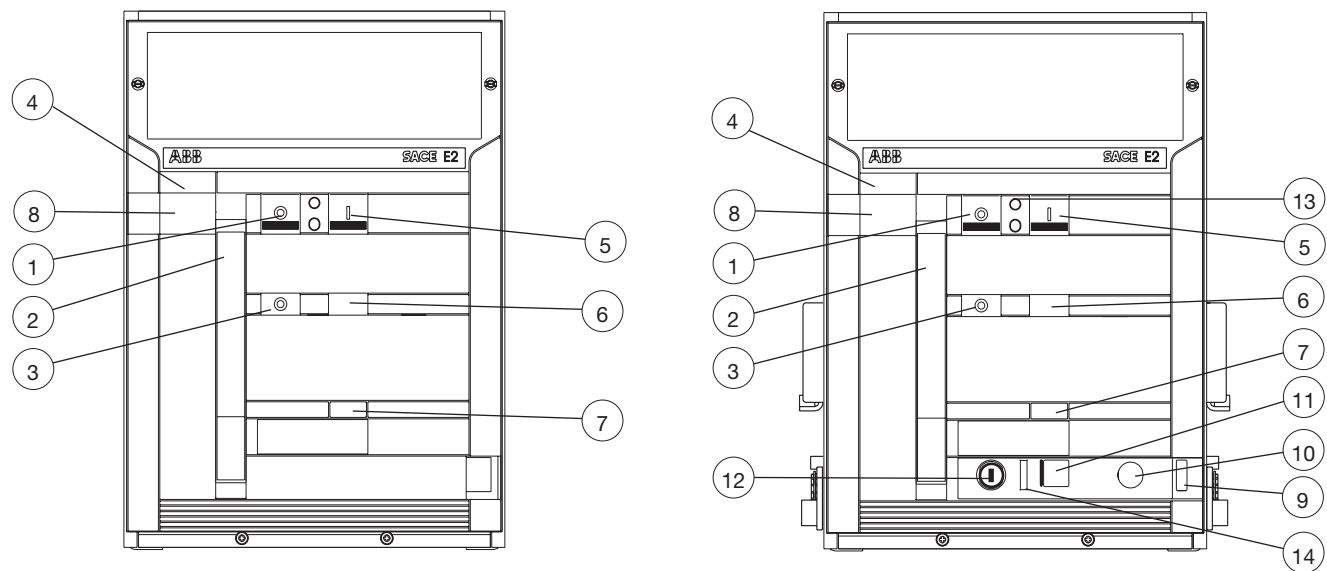

Figure 23.
- DISCONNECTED: the moving part is inserted in the fixed part WITHOUT any connection between the terminals and WITHOUT coupling the sliding contacts for the auxiliary circuits: in this position all electrical operation of the circuit-breaker is prevented. On the front the indicator (9, Figure 23) indicates DISCONNECTED. The switchgear compartment door can be closed.
- TEST ISOLATED: the moving part is inserted in the fixed part WITHOUT any connection between the power terminals, but WITH the sliding contacts coupled for the auxiliary circuits. In this position, the circuit-breaker can be operated for the offline tests. The indicator (9, Figure 23) indicates TEST ISOLATED.
- CONNECTED: the moving part is fully inserted in the fixed part WITH the connection of both the power terminals and the sliding contacts for the auxiliary circuits. The circuit-breaker is operational. The indicator (9, Figure 23) indicates CONNECTED.